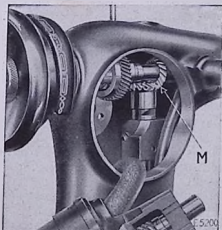
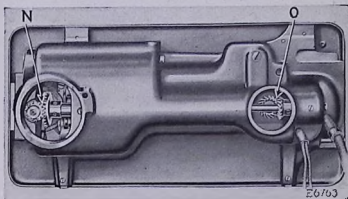

FIG. 32. BACK VIEW, SHOWING BEVEL GEARS IN ARM OF MACHINE
FIG. 33. BASE VIEW, SHOWING BEVEL GEARS
- (g) Apply ordinary vaseline to the teeth of the two bevel gears (M, Fig. 32) next the spiral gears. (The greasing of these two bevel gears should be done at the same time when the motor grease cups are refilled, inasmuch as they can only be reached when the motor has been withdrawn from the sewing machine head).
1. There are three sets of bevel gears in the machine, as shown at (M, Fig. 32) and (N and O, Fig. 33). These bevel gears should be greased once a year, preferably at the time of greasing the motor.
2. The method of greasing the upper set of bevel gears (M, Fig. 32), i.e., those which are located in close proximity to the motor itself, has been explained under the heading "To Lubricate the Motor."
3. The two lower sets of bevel gears (N and O, Fig. 33) are exposed by removing the two round